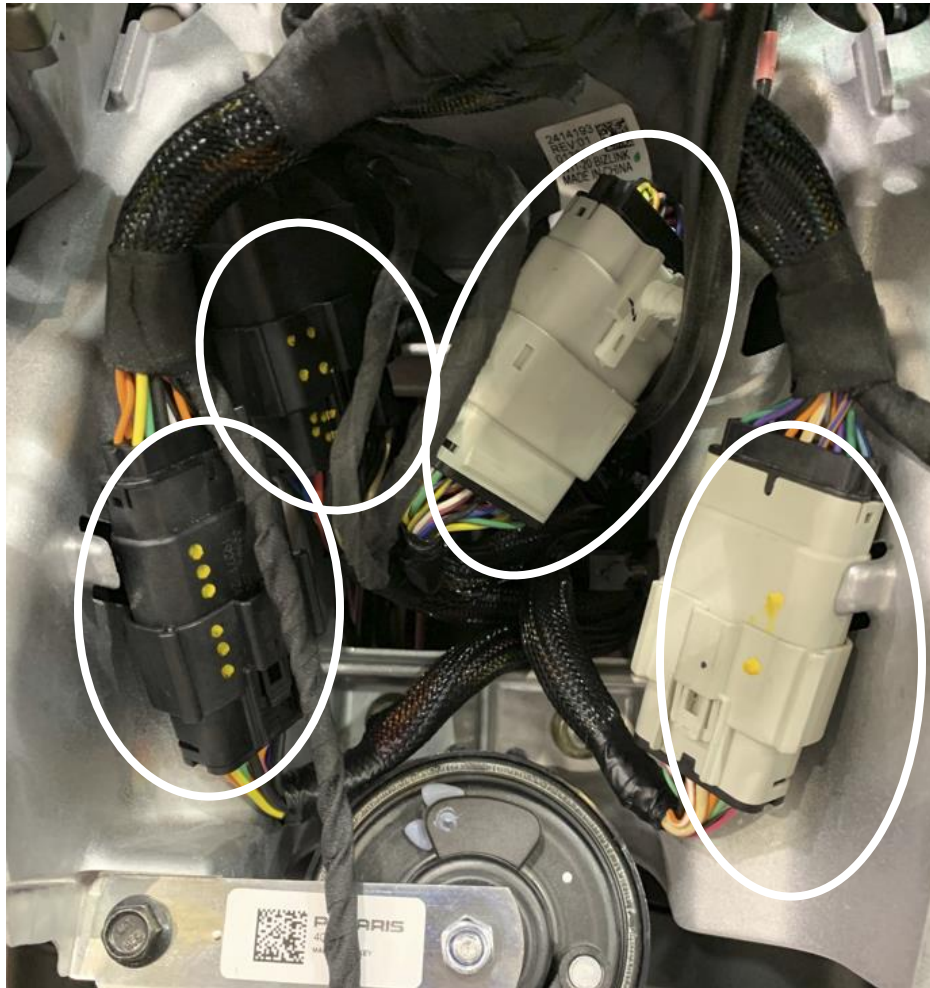
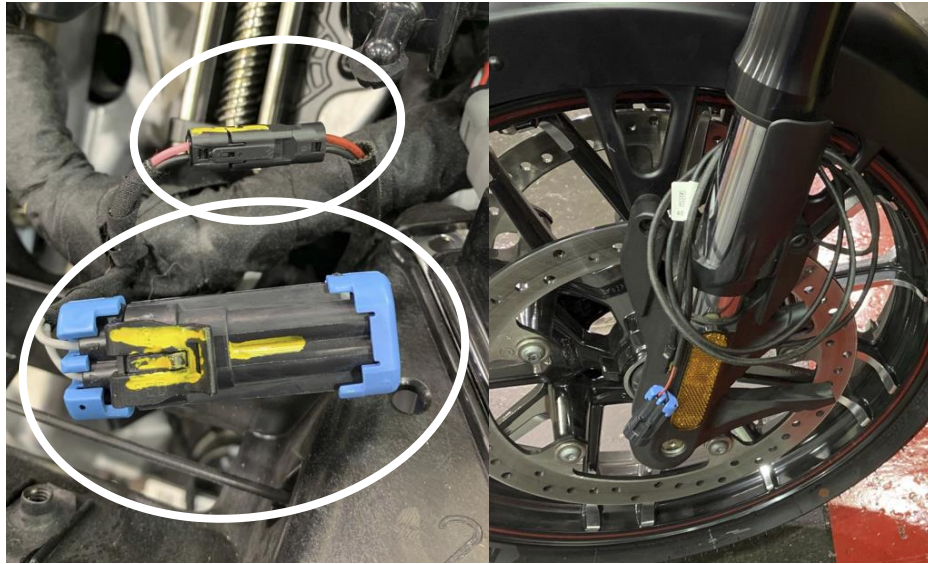

Figure 8: Unplug the chassis harness to inner fairing connectors.
Figure 11: Unplug connectors near windshield.
10. Unplug the chassis harness to inner fairing connectors. It is helpful to use a marker to code the connectors to make it easy to plug them back in later. Pull the chassis side through the inner fairing opening so the connectors are under the fuel tank. See Figure 8.
13. Unplug the two connectors near the windshield and pull the wires out of the inner fairing. The front ABS sensor connector can be wrapped around the front fork and remain with the fork / wheel assembly once removed. See Figure 11.
19. Plug in all connections between the chassis and inner fairing and reattach any wire strain relief that you removed during disassembly. Don't forget to run the ABS sensor wire back up the down tubes and into the inner fairing and the antenna wire back under the seat. Re-attach the clutch cable clamp to the inner fairing frame. See **Error! Reference source not found.**, Figure 8, Figure 9, Figure 10, and Figure 11